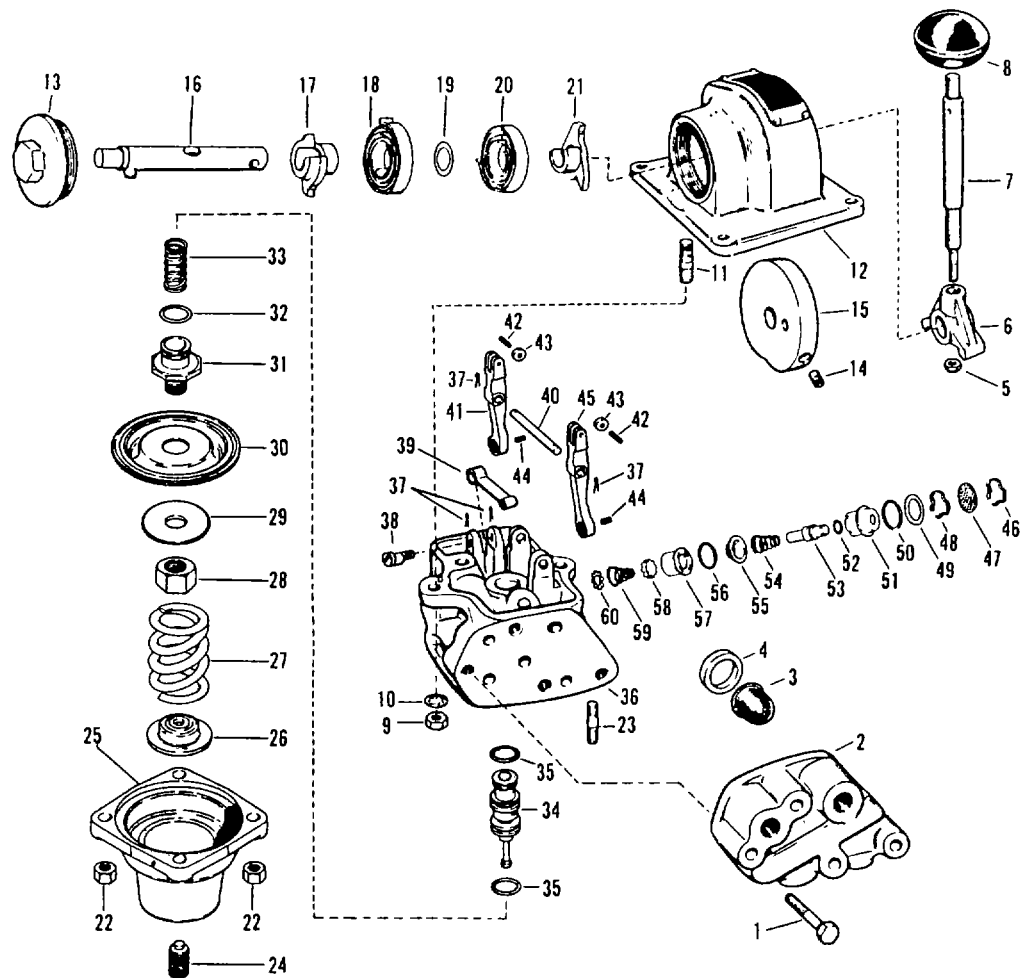

Figure 4-2. Control air Valve
4-3.1 Control air Valve. (Figure 4-2)
- a. Wash all metal parts in a non-flammable solvent and all rubber parts with soap and water. Rinse each part thoroughly and blow dry with a low pressure air jet. Arrange the parts on a clean white surface in the order of figure 4-2.
4-3.1.6 Pilot Valve Lever Adjustment. (Refer to figure 4-2)
4-3.1.7 Cam Dog Adjustment. (Refer to figure 4-2) The eccentric cam dog pin (38) aligns the cam dog (39) with the rise on cam (15). If pressure response is not identical to handle position in both quadrants, compensate this difference by turning the cam dog pin (38) either clock-wise or counterclockwise.
4-3.1.8 Pressure Setting Adjustment. (Refer to figure 4-2) Use the adjustment set-up illustrated in Figure 4-3. Adjusting screw (24) varies the minimum and maximum pressure setting a like amount without changing the range of pressure. Turning the adjusting screw in raises the maximum and minimum pressure, turning it out decreases the maximum and minimum pressure.
4-3.1.9 No Preload Setting. (Refer to figure 4-2)
4-3.1.10 Preload Setting. (Refer to figure 4-2) a. This setting calls for a predetermined downstream pressure when the handle is moved 10° from OFF position in either handle quadrant.